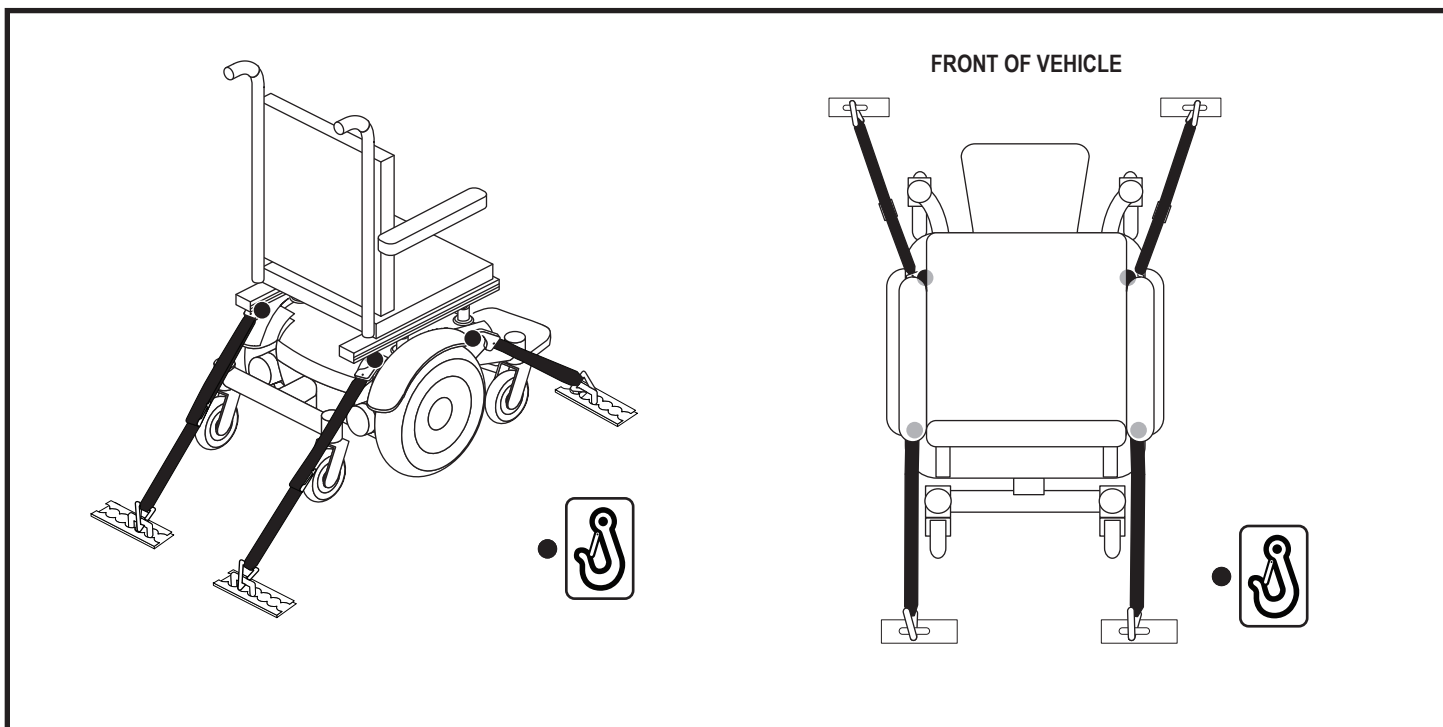

Figure 14. Unoccupied Transit System Securement Points
- Position the anchor points for the rear tie-down straps directly behind the rear securement points on the power chair. The front tie-down straps should be anchored to floor points that are spaced wider than the power chair to provide increased stability. See figure 14.